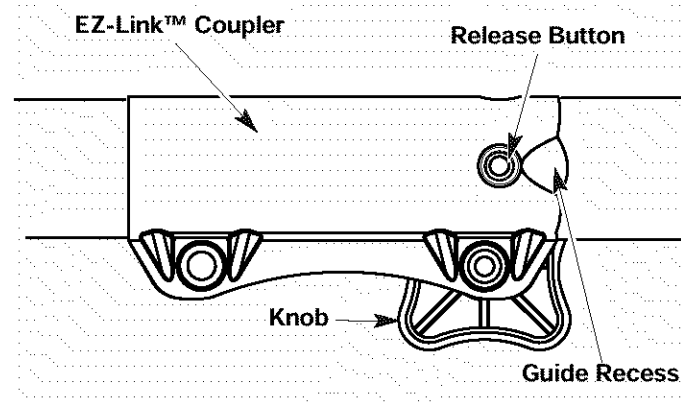

Fig. 10
1. Turn the knob counterclockwise to loosen (Fig. 10).
2. Press and hold the release button (Fig. 10).
3. While firmly holding the upper shaft housing, pull the cutting attachment or add-on straight out of the EZ-Link™ coupler (Fig. 10).
1. Turn knob counterclockwise to loosen (Fig. 10).